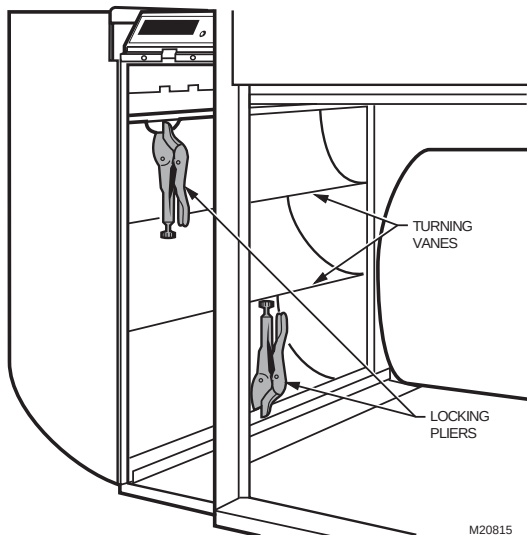

Fig. 6. Connect ductwork to air cleaner. (Note turning vanes. Locking pliers hold duct to air cleaner cabinet during installation.)
- ❑ Mount turning vanes inside the elbow or angle fitting that is directly against the air cleaner cabinet. See Fig. 6.
- ❑ Fasten the other side of the cabinet to the elbow using sheet metal screws, rivets, or slip joints as appropriate. If drilling holes, use locking pliers to help hold the unit in place during drilling. See Fig. 6.